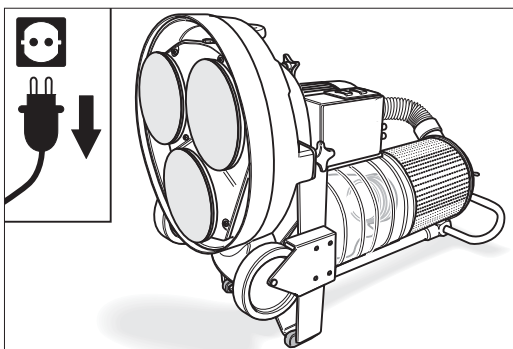

Fig. 52 Carefully tilt the machine backwards to be able to access the gears. **Make sure the machine is in a safe position!**
- 4 While holding on to the handle, carefully tilt the machine backwards into a horizontal position. Make sure that the machine gets to rest safely on the guide tube and the two protective cushions (Fig. 52). **Make sure the machine is in a safe position!**